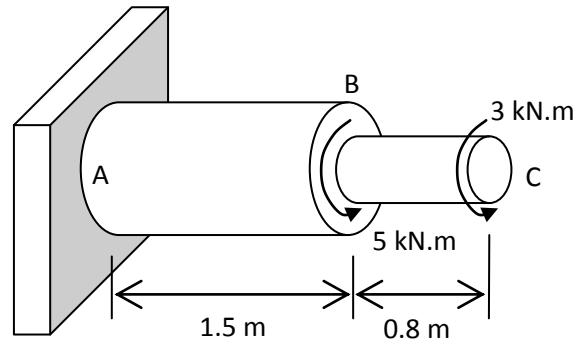

Figure 10
- (b) Figure 10 shows a stepped shaft of a machine consisting of two portions. Portion AB is made from steel having shear modulus of 80 GPa and portion BC is made from aluminum alloy having shear modulus of 30 GPa. The steel and aluminum portions are solid circular cross sections of 60 mm and 40 mm diameter, respectively. Determine the maximum shearing stress in each portion as well as the angle of twist at end C. It is given that torsional moments of 5 kN.m and 3 kN.m are applied at ends B and C, respectively. End A is rigidly clamped.